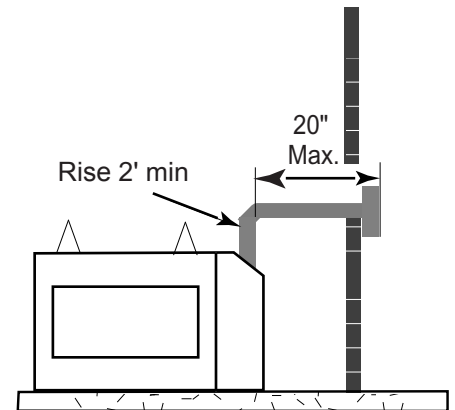
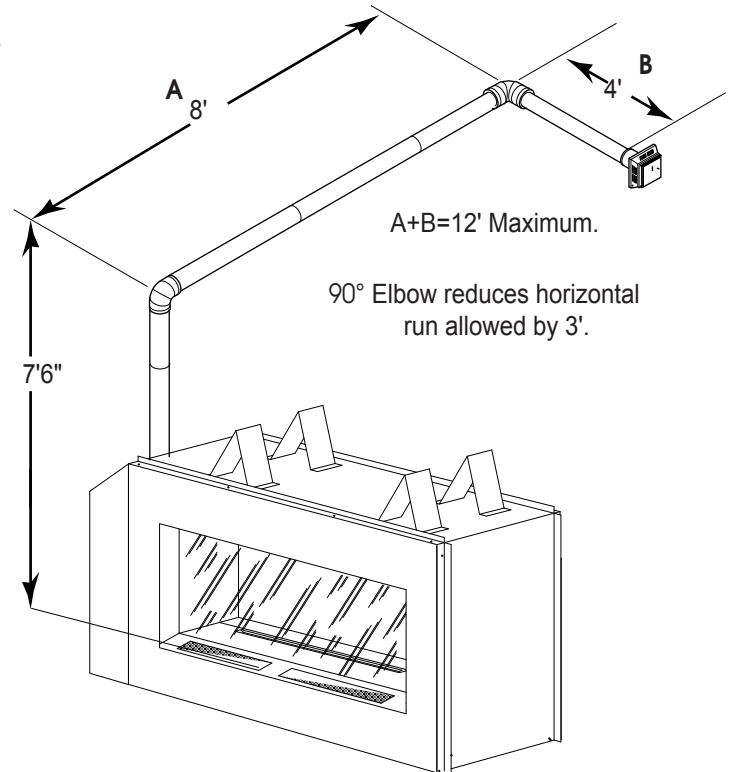

Figure 19 - Maximum Horizontal Run with 2 foot rise
Figure 20 - Maximum Vent Run with Elbows
- If a 90° elbow is used in the horizontal vent run (level height maintained) the horizontal vent length is reduced by 36" (914 mm) (Fig. 20 A and B) This does not apply if the 90° elbows are used to increase or redirect a vertical rise. See Figure 19.
In Figure 20, Dimension A plus B must not be greater than 12' (3.66m).